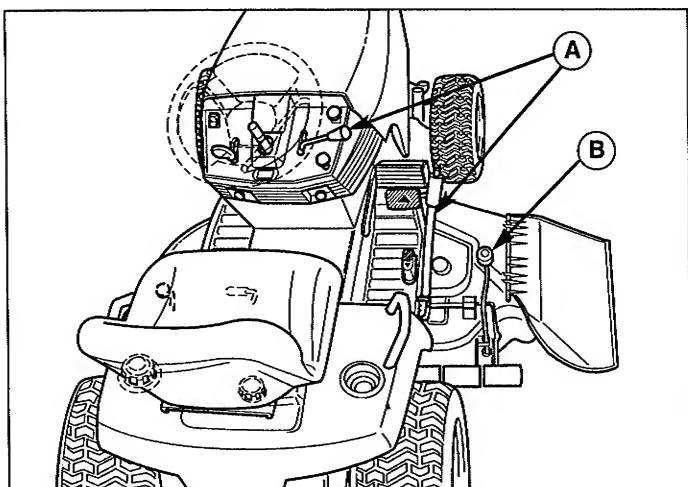
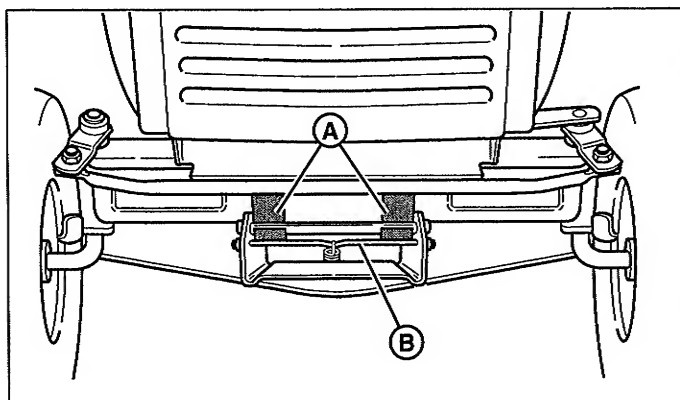

Figure 14. Raising & Lowering Mower
Figure 16. Mower Hitch
2. Place mower in the lowest cutting position using the mower height adjuster (B, Figure 14). Slide the mower deck under the right side of tractor so that the mower hitch is aligned with front tractor hitch (A, Figure 16).
3. See Figure 16. Turn wheels straight. Pull back on the spring-loaded lever (B) while lifting up on the mower hitch. Install the mower hitch onto tractor hitch brackets (A). When properly installed, the spring-loaded lever should seat fully underneath the brackets (A).
- Place mower in the lowest cutting position using the mower height adjuster (B, Figure 14). Slide the mower deck under the right side of tractor so that the mower hitch is aligned with front tractor hitch (A, Figure 16).
- See Figure 16. Turn wheels straight. Pull back on the spring-loaded lever (B) while lifting up on the mower hitch. Install the mower hitch onto tractor hitch brackets (A). When properly installed, the spring-loaded lever should seat fully underneath the brackets (A).